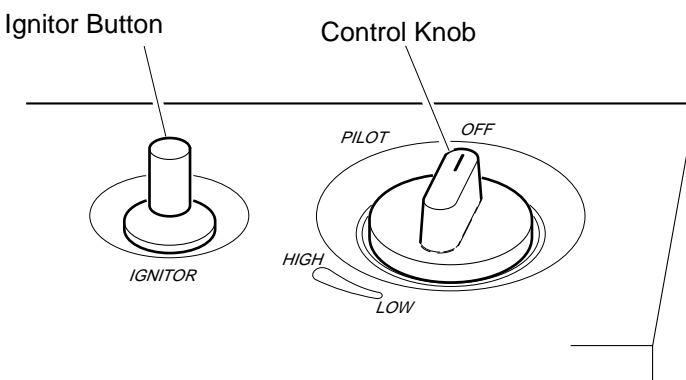

Figure 16 - Control Knob In The OFF Position
4. Wait five (5) minutes to clear out any gas. Then smell for gas, including near the floor. If you smell gas, **STOP!** Follow “B” in the safety information at the top of page 16. If you don’t smell gas, go to the next step.
5. Press in control knob and turn counterclockwise ↺ to the **PILOT** position. Keep control knob pressed in for five (5) seconds (see Figure 16, page 16).